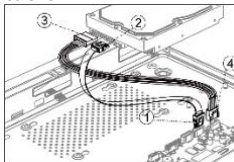

Figure 2-8 Connect Cable
Step 2 Connect the data cable and power cable. Refer to Figure 2-8.